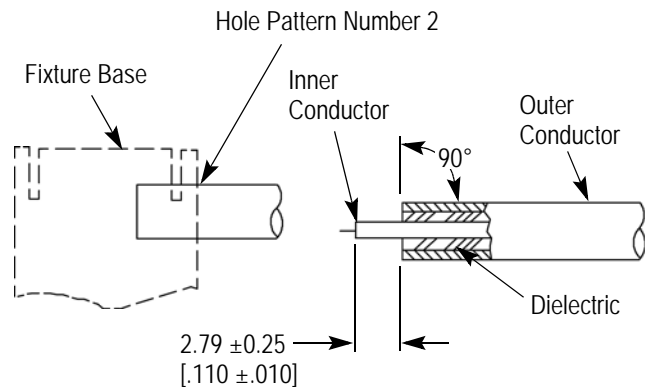

Figure 3
3.1. Preparing Cable (Figure 3)